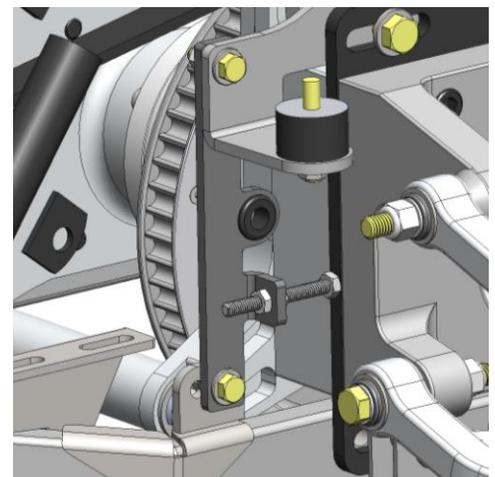

Figure 12
- c. Install belt adjuster brackets using 3/8-16x1-1/4" bolts, washers, and nylock nuts. See **Figure 12**
- b. Set belt tension and alignment by moving independent drive train unit forward or rearward as necessary using adjuster bolts. **Figure 12.** Belt tension can be measured by total vertical movement and should be approximately 3/4"-1" with a new belt or 1" to 1-1/2" with a used belt. Remember, TOTAL vertical movement.